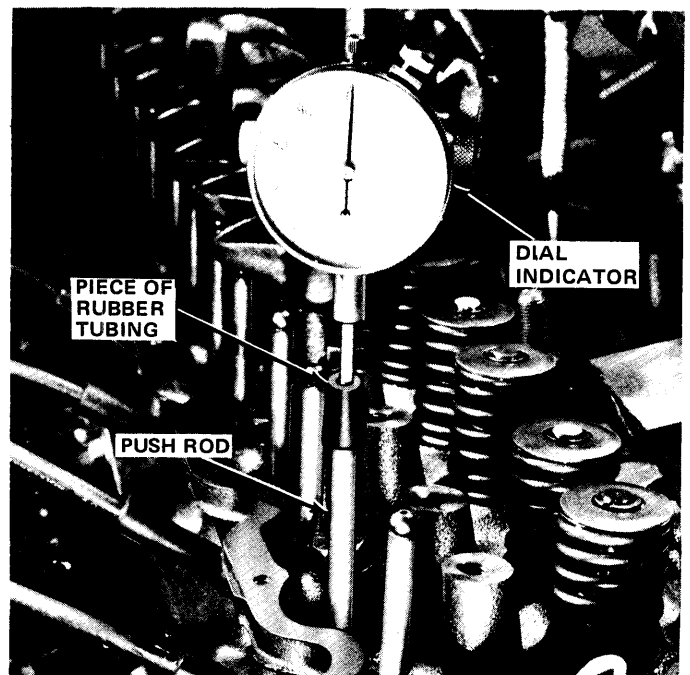

Fig. 1A-30 Cam Lobe Lift Measurement
(1) Remove cylinder head cover and gasket.
(2) Remove rocker arms and bridged pivot assemblies.
(3) Remove spark plugs.
(4) Install a dial indicator on end of push rod using piece of rubber tubing between dial indicator plunger to push rod (fig. 1A-30).